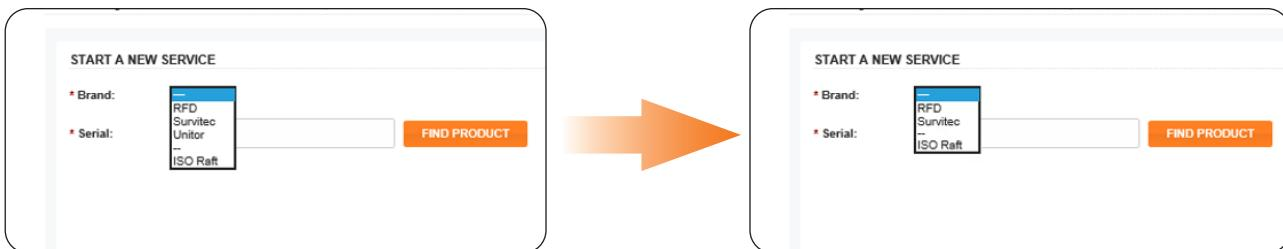

FIGURE 4
- (1) The Unitor brand will no longer be supported on the Survitec Portal. The Unitor brand has been replaced with the Survitec brand. Refer to **Figure 4**.